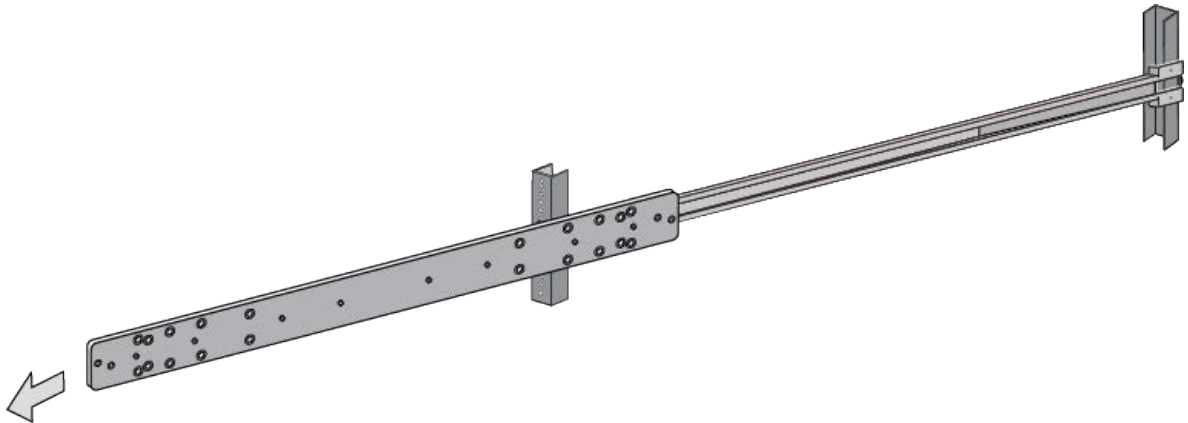

Figure 78. Removing the Inner Rail
- Remove the inner rail from the outer rail. Refer to Figure 78.